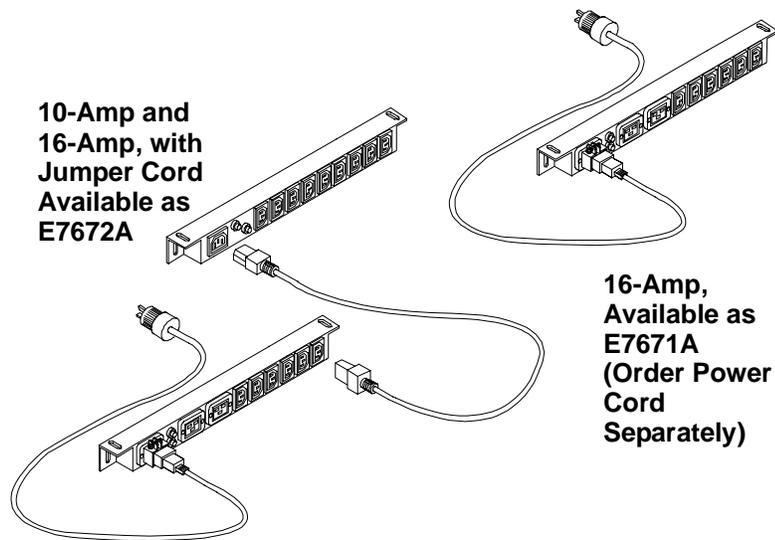

Figure 2-1. PDU Configurations
- ◇ for both 208 and 230/240 voltages, two wide range Power Distribution Unit (PDU) models (rated 10 A and 16 A) are available (see Figure 2-1)
- connected to a Power Distribution Unit (PDU)--see Figure 2-1.